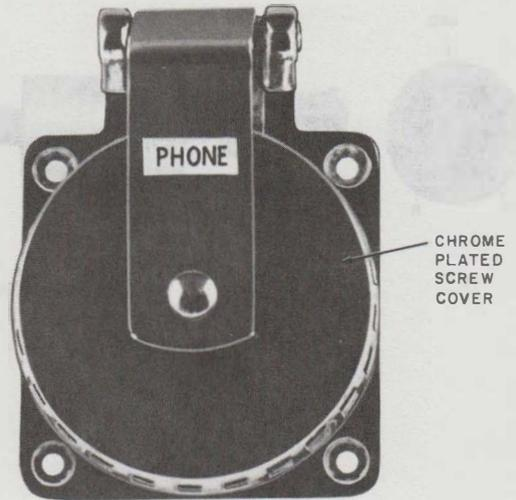

Fig. 56—B Waterproof Male Jack (Front View)
3.11 The B weatherproof male jack (Fig. 56 and 57) is mounted on a boat and receives the female plug of the B weatherproof cord to provide telephone service to boats. It is chrome plated with hinged, threaded cover to make the jack waterproof when not in use. Three screw terminals on the rear of the jack stamped R, T, and GR provide connections.